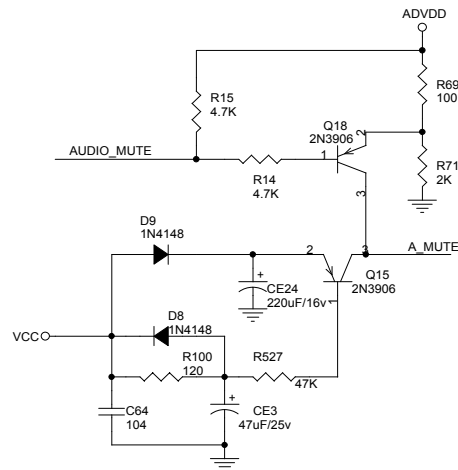

Figure 3.2.11.1 Mute circuit
1. Mute circuit is shown as in the figure 3.2.11.1:
When the player is working normally, shown in the figure 3.2.11.1, MT1389L outputs analog audio signal, and a low level signal to AUDIO_MUTE at the same time to make Q18 on, B electrode of Q18 is about 2.7V, collector electrode of Q18 is about 3.3V, so Q15 is also on, voltage of B electrode is about 0.7V, voltage of Q15 E electrode is near to zero, Q15 cuts off, A_MUTE is negative voltage, which is added to base electrode of mute tube of audio output end to make mute tube cut off, and audio signal outputs after being amplified by 4558. When pressing MUTE button on remote controller, MT1389L has no audio signal that outputs to operational amplifier, so audio output end of the player has no audio signal output, but because electronic elements in circuit will produce some noise when working that transmits to output end of the player, in order to filter there noise, decode chip outputs a high level signal to AUDIO_MUTE to make Q18 cut off, so Q15 cuts off, +5V power is transmitted to base electrode of switch pipe Q15 through EC electrode of Q21, mute circuit is in mute state.
As shown in the figure 3.2.11.1, when the player is working normally, D9 is on, +5V charges capacitor CE24 through D8, now emitter voltage of Q15 is less than base electrode voltage, Q15 cuts off. When power off, VCC disappears, Q15 base electrode changes into low level, its emitter electrode changes into high level because of discharge, now Q15 is on, Q15 collector electrode (AUDIO_MUTE) outputs high level to add to base electrode of switch pip Q8- Q10, switch pipe is saturated, noise produces in the course of power off is bypassed to ground, and power-off quieting function is realized.